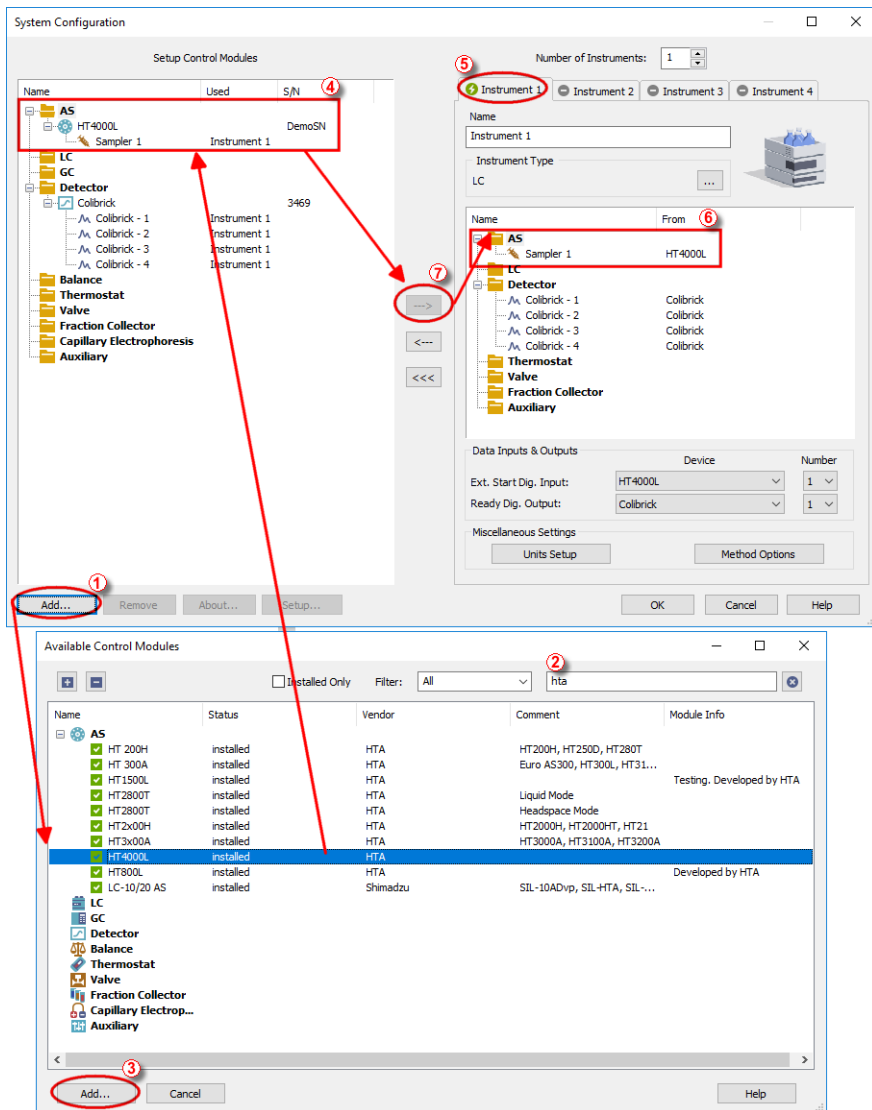

Fig 2: System Configuration
- Press the *Add* button ① (see **Fig 2** on pg 5.) to invoke the **Available Control Modules** dialog.
- You can specify the searching filter ② to simplify the finding of the driver.
- Select the **HT4000L** sampler and press the *Add* ③ button.